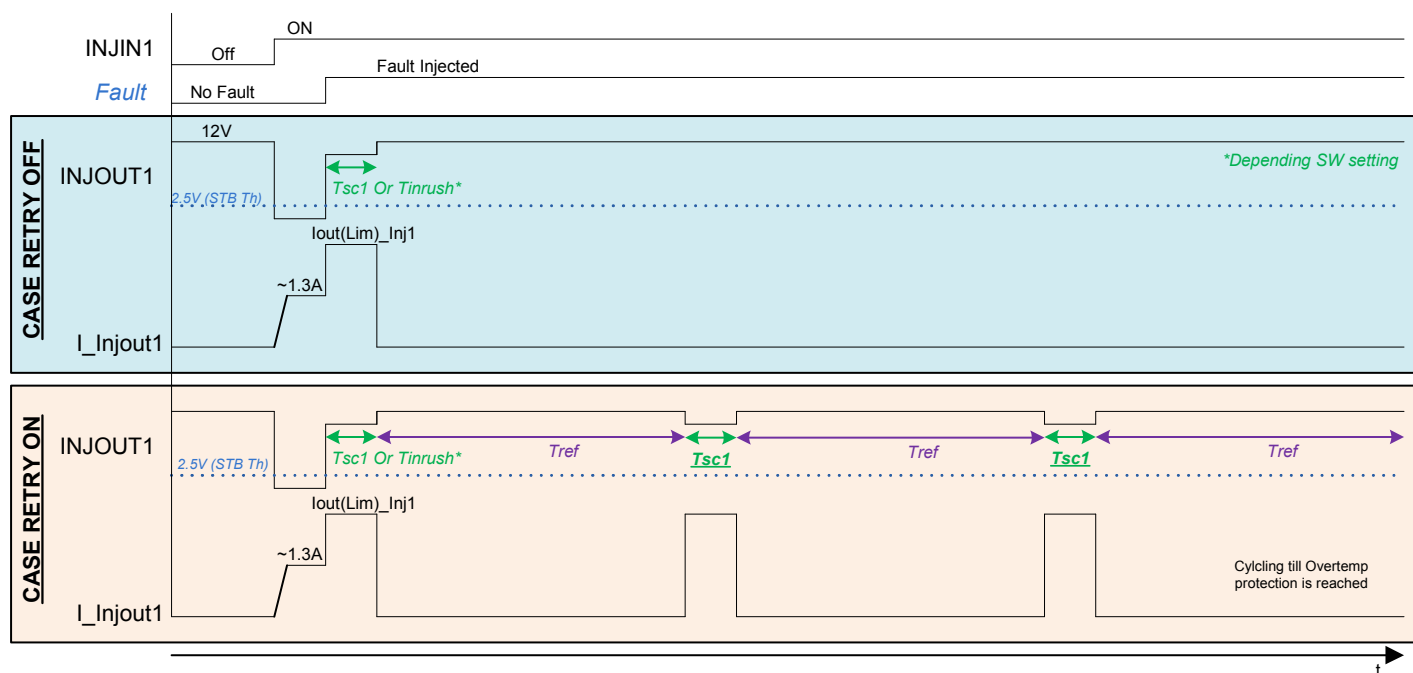

Figure 16. Retry and Inrush feature
When the Retry feature is enabled (Retry Bit for each output) during an overcurrent condition at the end of the Inrush period, the output device turns off and waits until a delay time (t_{Ref}) has passed. After this off time, the output tries to turn on again. If the short is still present, the process starts again. This on/off cycling continues until the output is shut off by command or the overtemperature (OT) on the output device is reached. Note that the Inrush delay resets to its default state for this on/off cycling. See Figure 16.